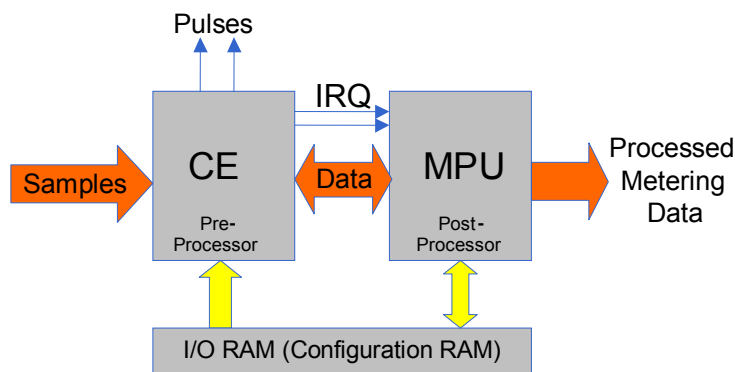

Figure 29: MPU/CE Data Flow
The data flow between the Compute Engine (CE) and the MPU is shown in Figure 29. In a typical application, the 32-bit CE sequentially processes the samples from the voltage inputs on pins IA, VA, IB, and VB, performing calculations to measure active power (Wh), reactive power (VARh),  $A^2h$ , and  $V^2h$  for four-quadrant metering. These measurements are then accessed by the MPU, processed further and output using the peripheral devices available to the MPU. Figure 29 illustrates the CE/MPU data flow.